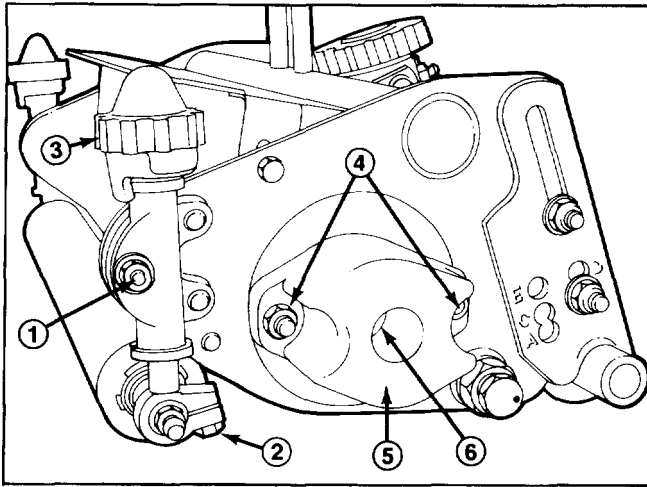

Figure 17
1. Loosen the locknuts securing the height of cut adjusting rods at both ends of the cutting unit and the roller shaft clamp bolts (Fig. 17).
2. Turn the height of cut adjustment knobs until they are disconnected from the height of cut adjusting rods (Fig. 17). The knobs are captivated on the upper washer face of height of cut clamp.
2. The reel bearing drag should be from 7 to 11 inch pounds. This can be measured with a torque wrench (Fig. 17).
1. Remove the mounting nuts from the counterbalance end cap and remove end cap from the mounting studs (Fig. 17).
3. With the wrench mounted, hold the reel and tighten the large reel bearing adjustment nut (Fig. 17). Tighten until the drag on the reel meets 10 to 20 inch-pound specification.
1. Remove counterbalance End Cap (Fig. 17).
2. Remove the large bearing adjustment nut from one end of the reel shaft (Fig. 17) and the special spline nut at the opposite end of the reel shaft.